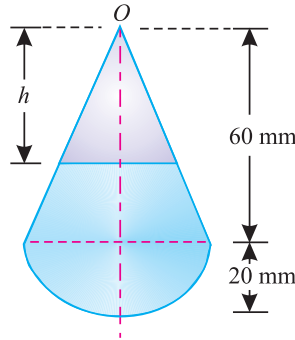

Fig. 6.30.
**Example 6.18.** A solid hemisphere of 20 mm radius supports a solid cone of the same base and 60 mm height as shown in Fig. 6.30. Locate the centre of gravity of the composite section.